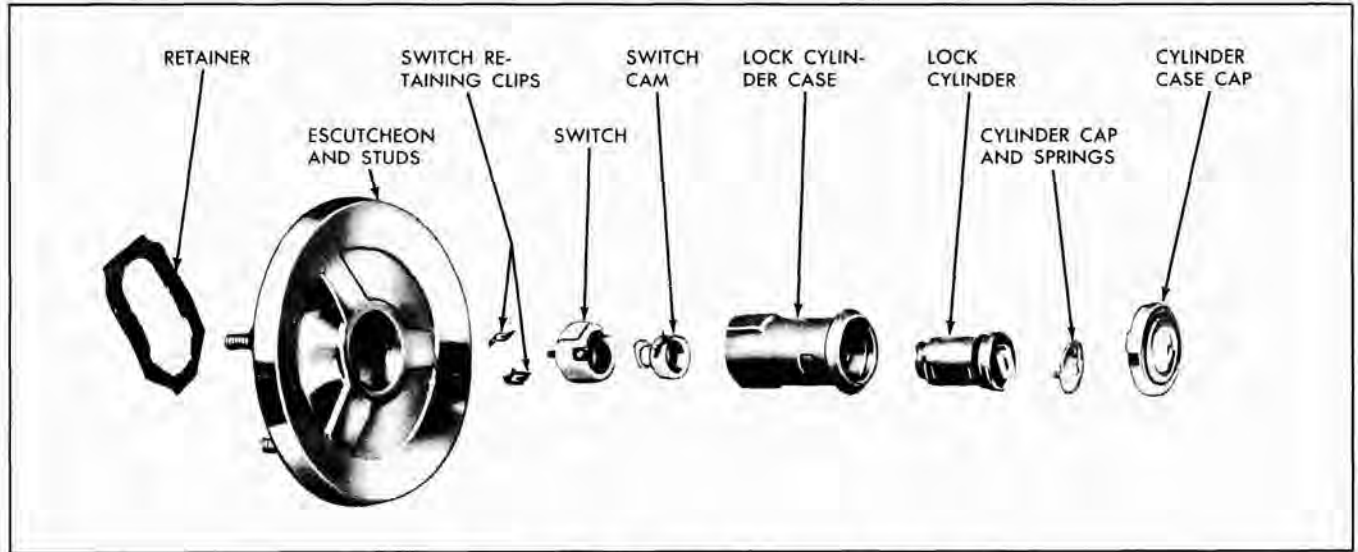

Fig. 5-18 Tail Gate Lock Cylinder and Switch
2. Disengage lock cylinder and switch retainer (Fig. 5-18) and remove lock cylinder and switch assembly from escutcheon.
1. Using a pointed tool inserted through holes in lock cylinder case, depress tab of switch clips and remove clips (Fig. 5-18).
2. Carefully pull switch and switch cam from lock cylinder case (Fig. 5-18).